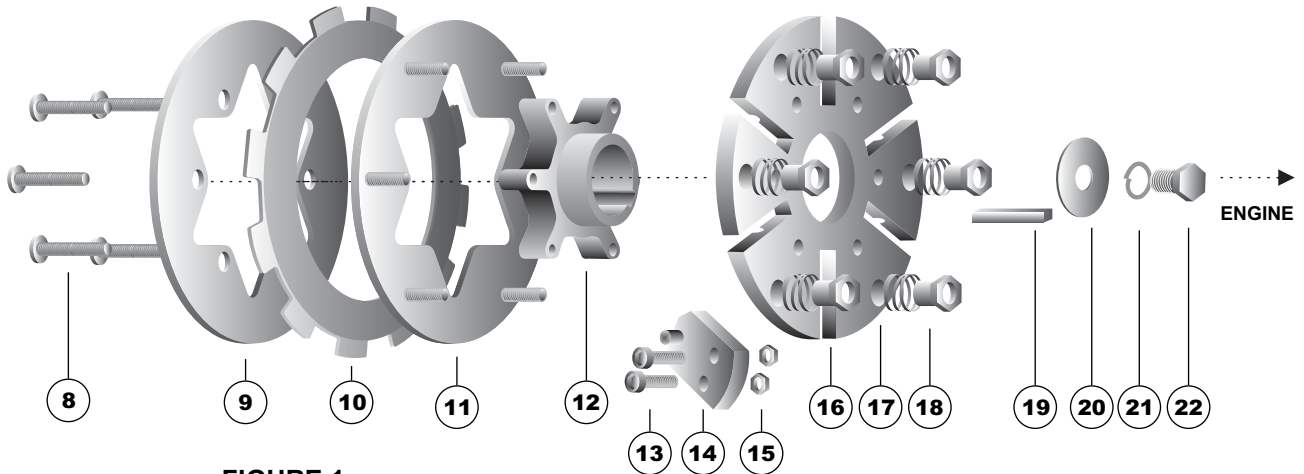

FIGURE 1
- A clutch assembly consisting of friction discs, steel plates and clamping mechanism (figure 1)